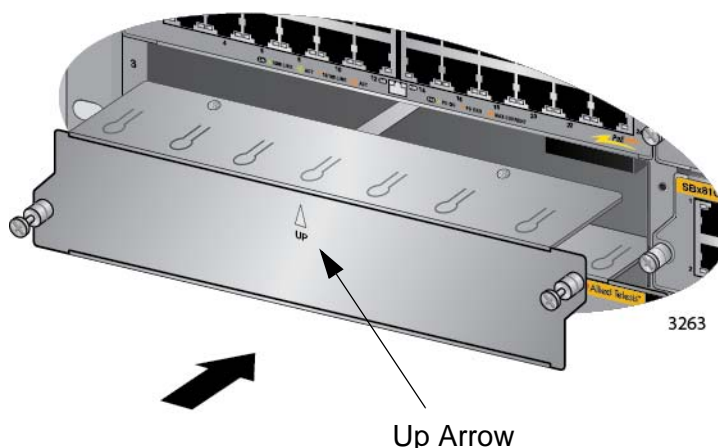

Figure 94. Installing a Blank Slot Cover
1. Position a blank slot cover over an unused slot, as shown in Figure 94. The up arrow on the panel must be pointing up.